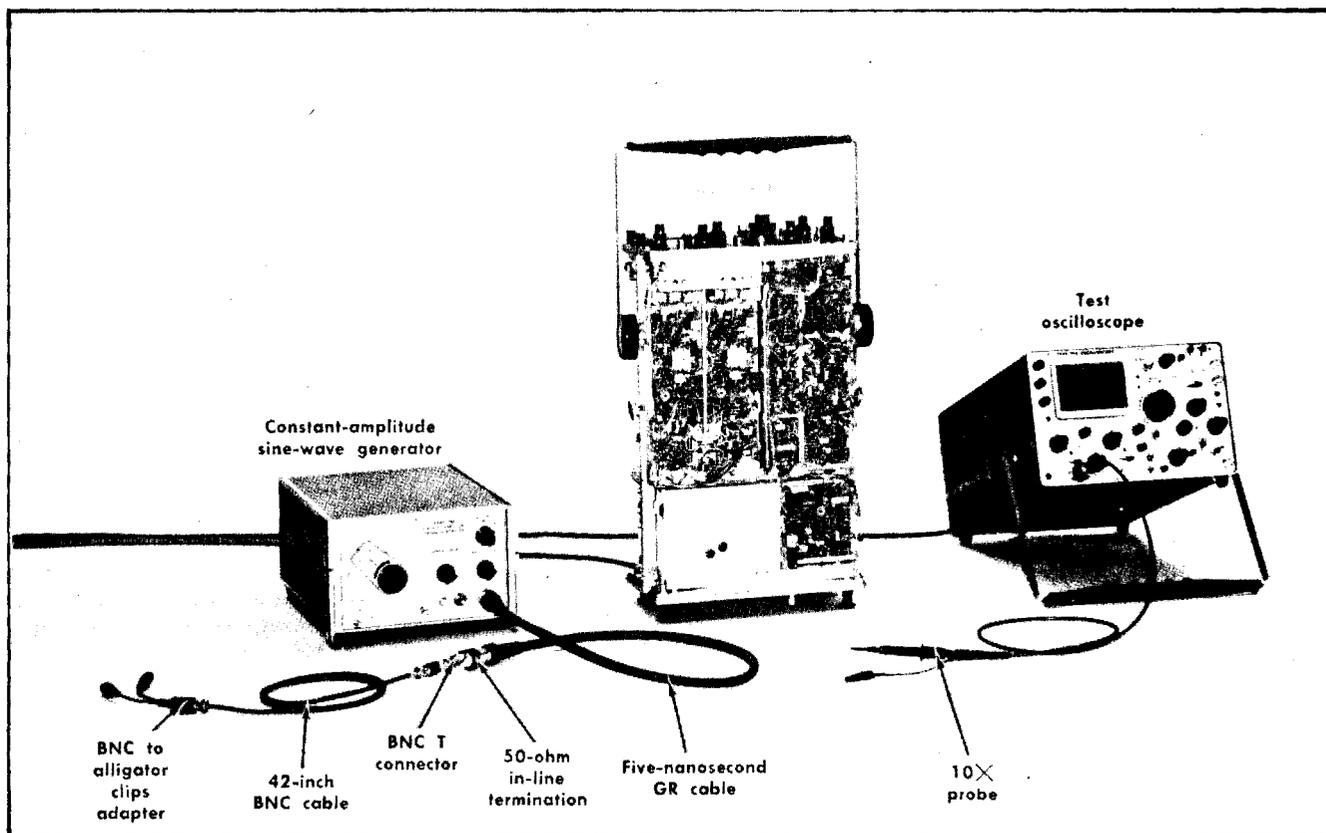

Fig. 6-60. Initial test equipment setup for steps 71 through 74.
71. Adjust Z Axis Compensation ①
- a. Test equipment setup is shown in Fig. 6-60.